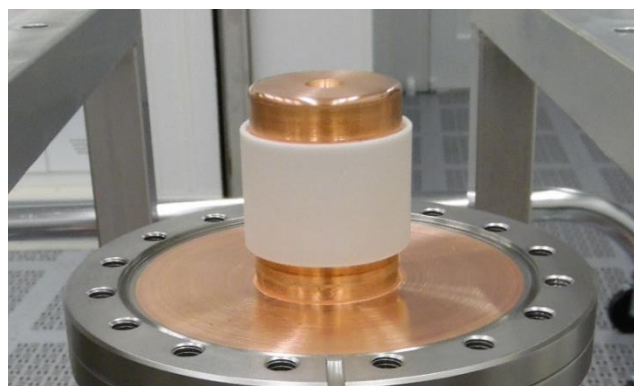

Figure 6.2: FPCC Ceramic
- 6.3.1. Visually inspect the ceramics (Figure 6.2). Generate an NCR if there are any scratches, dark spots, chips, or stains